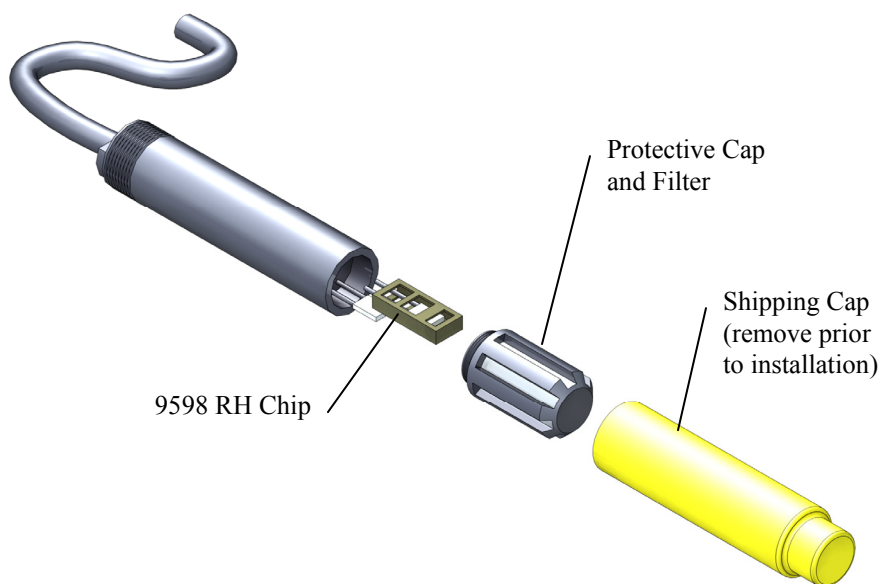

FIGURE 4.1-1. Exploded View of HMP60-ET (as shipped)
- Check calibration of the HMP60-ET temp/RH probe. Sensor will tend to drift up over time giving readings higher than 100%. Replace RH chip (item# 9598) if necessary (see Figure 4.1-1 and Section 4.1.4.1).
1. Unscrew the protective cap (see Figure 4.1-1).